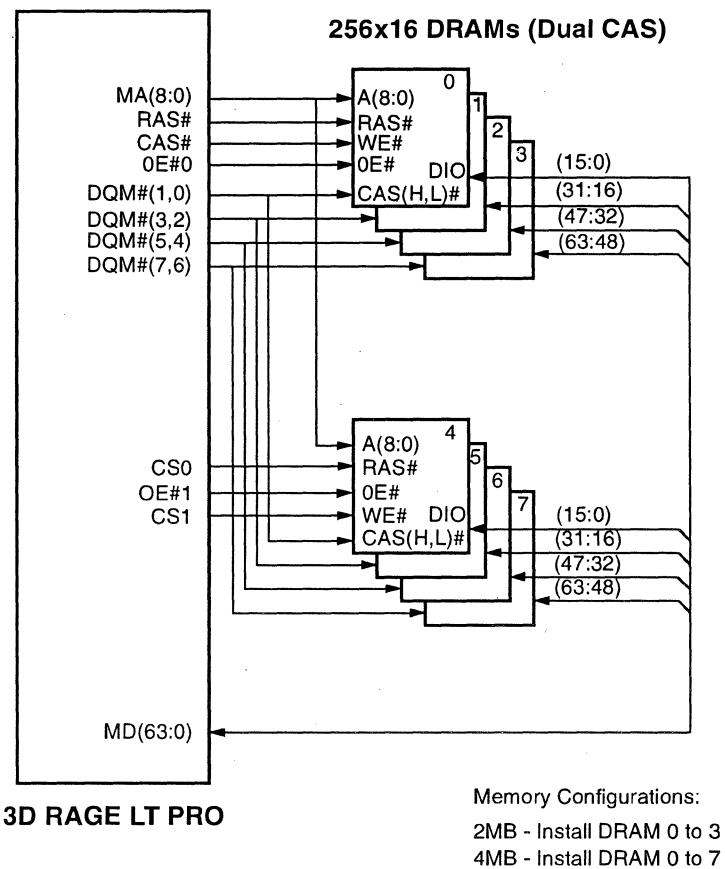

Figure 4-4. DRAM Implementation
*Figure 4-4* shows a 256x16 Dual CAS memory implementation.